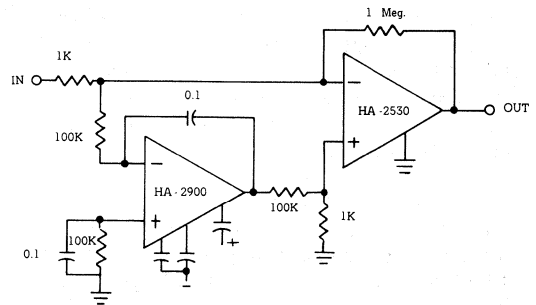

Figure 14
Figure 14 illustrates an excellent combination of characteristics for use wherever inverting amplifier applications are required. Features of the composite amplifier include: slew rate: $300\text{V}/\mu\text{s}$, gain bandwidth product: 10-500 MHz, D.C. gain: 10^{13} , offset voltage drift: $0.3\mu\text{V}/^\circ\text{C}$, bias current drift: $50\text{pA}/^\circ\text{C}$, input noise (0-1 KHz): $5\mu\text{V}$ peak to peak.
- Obtain the value of $4KTR_g$ from Figure 14, and enter it on line (c) of the table. This is constant for all frequencies. The $4KTR_g$ value must be adjusted for temperatures other than normal room temperature.